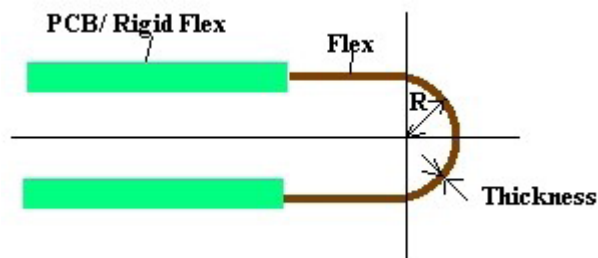

Figure 5. Bend radius definitions
9. The maximum degree of bend in rotary-draw bending is 180 degrees (Fig. 5).